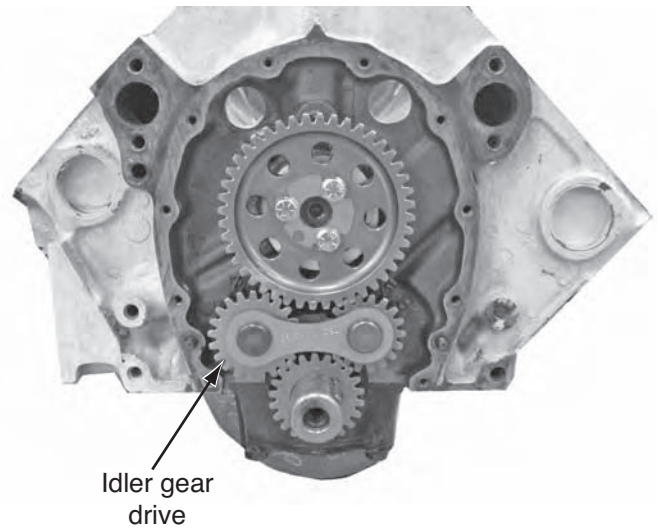

FIGURE 9.53 This aftermarket idler gear drive is used to replace a timing chain. These tend to be loud. (Courtesy of Tim Gilles)
- A conversion kit to change a chain drive to a gear drive is available from racing parts distributors. It uses idler gears so that the cam and crank will rotate in the same direction as they do with a chain drive (**Figure 9.53**). A disadvantage of idler gear drives is that they are noisy.